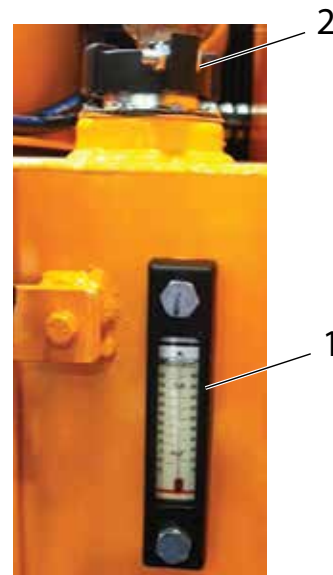

Figure 5-24. Hydraulic Oil Tank
The hydraulic reservoir oil level must be visible in the sight gauge **1 - Sight Gauge (Oil Level/Temperature) (Figure 5-24,1)** to be at the correct level. If the hydraulic oil level is below the sight gauge, the correct, filtered hydraulic oil (see “**Lubricant Specifications**” on page 2-10) must be added to the hydraulic oil reservoir until the oil level is shown to be full in the sight gauge.
1. Unscrew hydraulic oil tank filler cap (Figure 5-24,2).
Use the following procedures to change the hydraulic oil in the hydraulic oil tank (Figure 5-24).
1. Stop the engine. Allow the hydraulic oil to cool, until it is at a warm temperature only. Slowly loosen, and then remove, the hydraulic oil reservoir filler cap (Figure 5-24,2). Put a CLEAN, lint free cloth over the reservoir fill tube opening and secure in place with tape.